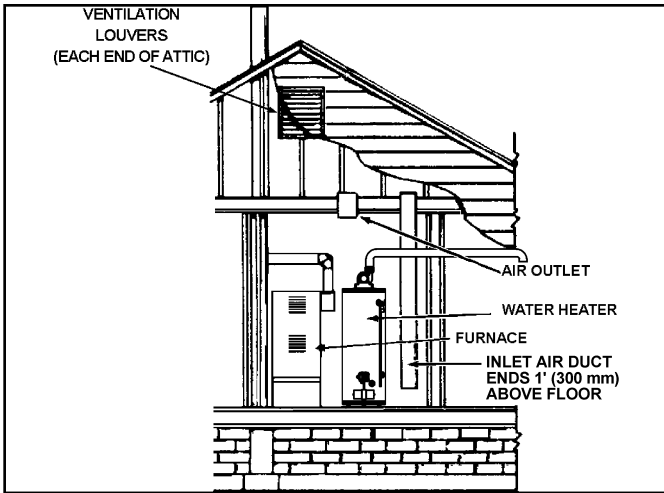

Figure 19
2. When communicating with the outdoors through vertical ducts, each opening shall have a minimum free area of 1 square inch per 4,000 Btu/hr (5.5 cm²/kW) of total input rating of all equipment in the enclosure (see Figure 19).